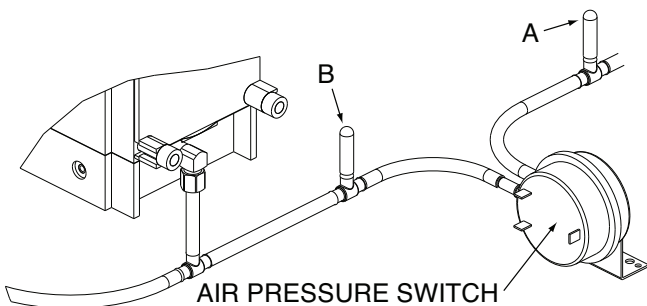

Fig. 53: Air Pressure Measurement Locations
1. Check the net blower suction using a 6-0-6 U-tube manometer by connecting one end to the blower suction pressure tee (attached to the negative side of the air pressure switch, point “A” in Fig. 53) and the other end to the tracking pressure tee (attached to the positive side of the air pressure switch, point “B” in Fig. 53). Read the differential pressure with the heater firing at 100% input and compare to Table U.
2. Check the tracking pressure by removing the end of the U-tube manometer from the blower suction pressure tee (point “A” in Fig. 53). Replace the cap on the blower suction tee and check the tracking pressure (at point “B” in Fig. 53) with the heater firing at 100% input. The tracking pressure provides feedback to the gas regulator to compensate for various air ducting arrangements and changes in the pressure drop across the combustion air filter. Initial readings with a clean air filter installed must be recorded on the “Start-up Checklist” located at the back of this manual. When the tracking pressure is more negative than -0.6 in. WC for 1005 and 1505 models or -0.8 in. WC on 2005 models and there are no obstructions to the air intake, replace the combustion air filter. If the air intake is obstructed, shut the unit off, clear the obstruction, re-start and check the tracking pressure as previously noted.